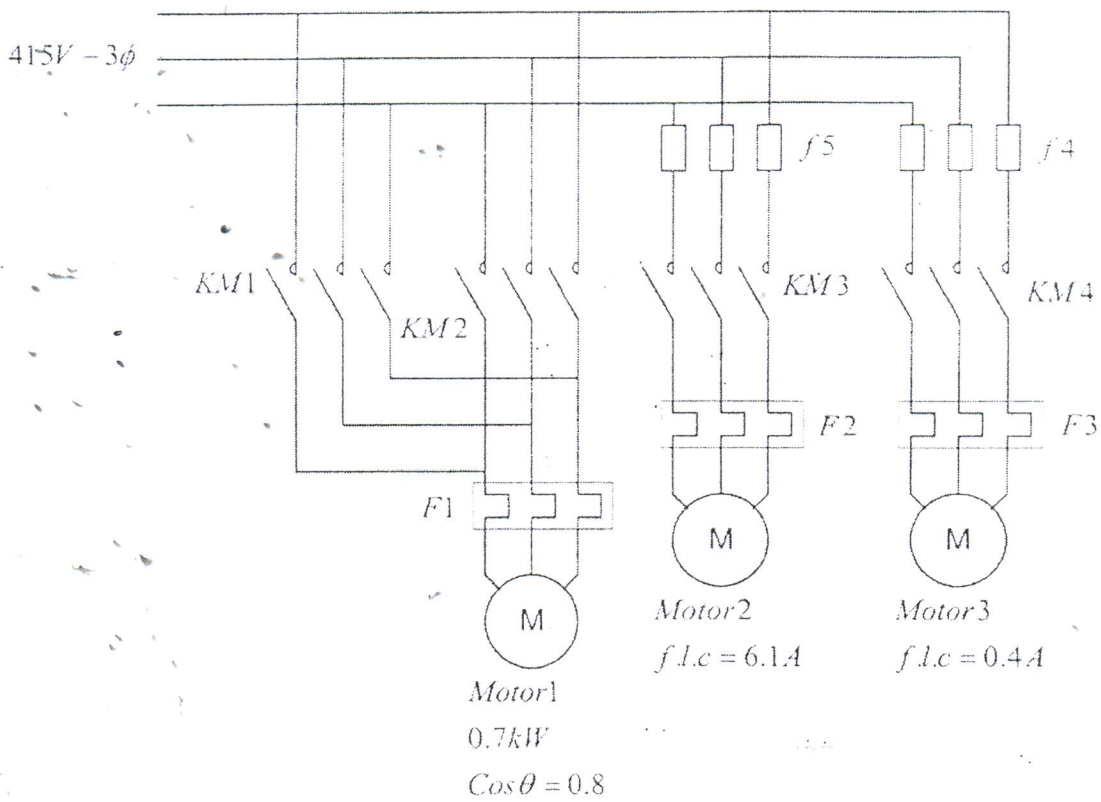

Figure 4: Power diagram
- (a) Figure 4 shows power diagram of a system consists of three induction motors. Calculate the maximum current allowable for: